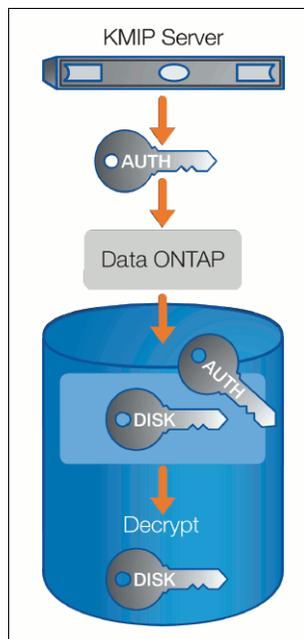

Figure 5-10 Authentication key use
Self-encryption supports up to four key managers simultaneously for high availability of the authentication key. Figure 5-10 shows authentication key use in self-encryption. It demonstrates how the Authentication Key (AK) is used to wrap the Data Encryption Key (DEK) and is backed up to an external key management server.